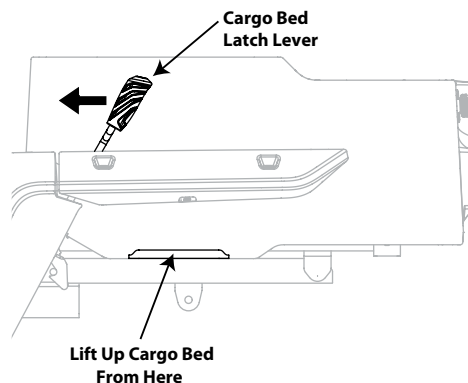

Figure 3-7
3. For light loads, unlatch cargo bed by pulling up on one of the cargo bed release levers. While holding the cargo bed release lever forward with one hand, lift the cargo bed with your other hand. See Figure 3-7.